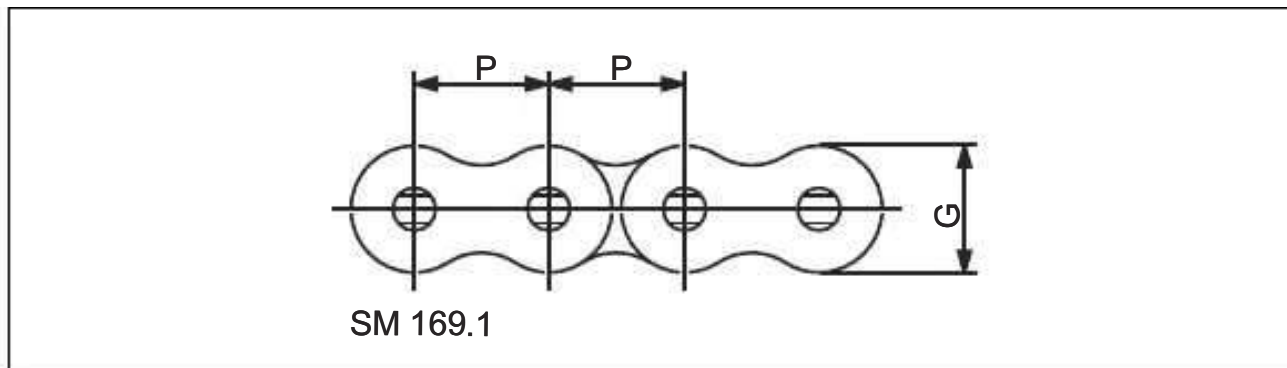

**Figure 6.25** Measuring positions
- Measure the height of the chain link plates, dimension G in figure 6.25. Max wear is 5%. Measure the original height where the chain is not worn as a comparison.